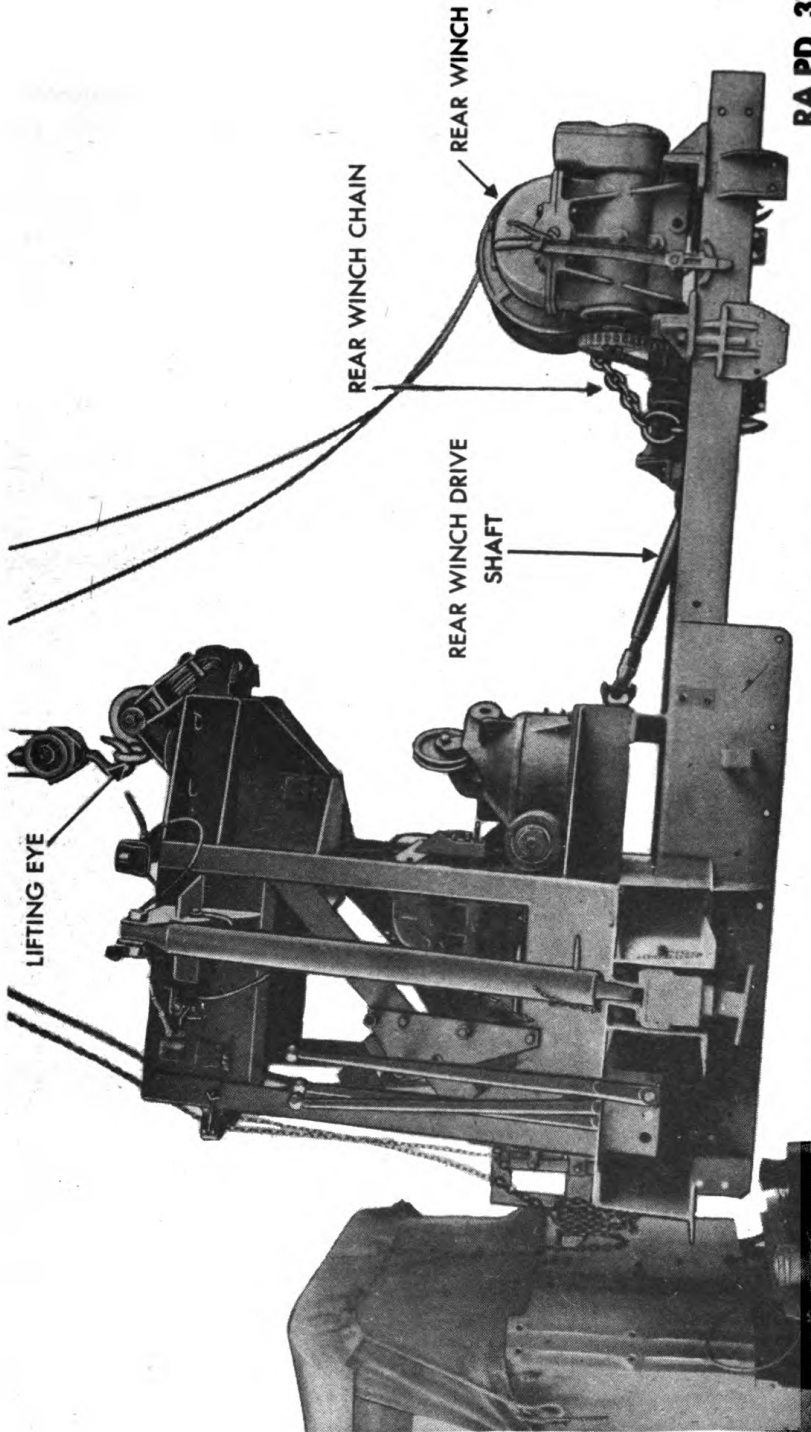

Figure 7 — Lifting Crane and Winch Assembly With Lifting Eye 41-1-610
b. **Remove Crane.** To lift crane from vehicle use lifting eye 41-F-610. Run the eye bolt through the boom cable opening of the topping pivot. Place a 4-inch washer on eye bolt and install two 1-inch nuts. Center the eye bolt under a chain hoist. Wind the rear winch cable chain around the rear winch drum. Raise the chain hoist until the crane is free of the vehicle (fig. 7).